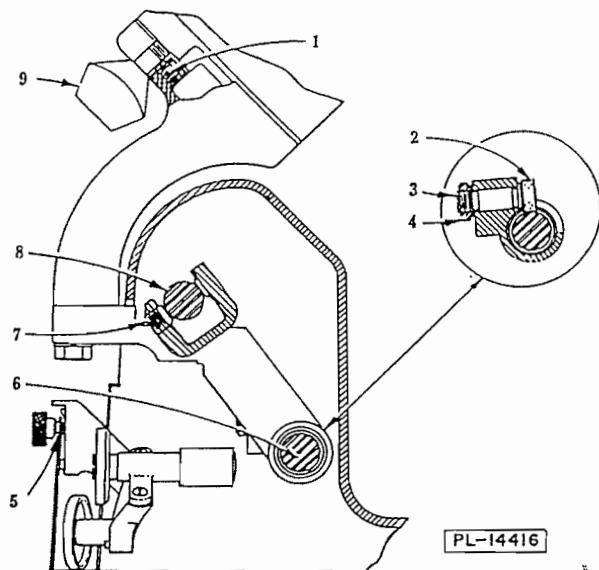

Fig. 4
This machine is furnished with a Hobart "Stay Sharp" stainless steel knife. It should be sharpened only when necessary. It is not unusual for this knife to retain its keen edge for months without re-sharpening. When not in use, hang the sharpening unit in the notch (5, Fig. 4) of the side panel. Use the thumb screw to secure the sharpener in position shown on the inside of the machine. The following sharpening procedure is recommended:
1. Turning the adjusting screw (7, Fig. 4) will regulate the amount of looseness (or play) in the carriage. This set screw changes the clearance between the "Rulon" plugs and the upper slide rod. Note: Excessive tightening will cause needless friction on the upper slide rod.
2. To adjust the eccentric stud & brg. sub-assy. on the lower slide rod, loosen the locking nut (4, Fig. 4), then turn the eccentric stud (3, Fig. 4) to suit. A proper setting may be reached by turning the eccentric to a tight (or drag) position; then loosening so that outer race of ball bearing (2, Fig. 4) still turns on the lower slide rod, but with a minimum of bearing pressure. NOTE: The sleeve bearings are for alignment only. When properly adjusted, the carriage is free to glide on slide rods. Excessive drag will be noted at the carriage if the bearing is overly tightened.
The carriage tray assembly can be taken off as a unit by loosening the thumb screw (9, Fig. 4) and sliding the assembly out of the "V" support. Care should be used in order to prevent the tray from striking and damaging the knife edge. The carriage tray knife clearance may be changed by adjusting the self-locking set screw (1, Fig. 4) to suit.
Very little lubrication is needed. Both the upper (8, Fig. 4) and lower (6, Fig. 4) slide rods are to be lubricated. Use a few drops of oil (Mobil "DTE" or equiv.) weekly on these slide rods.